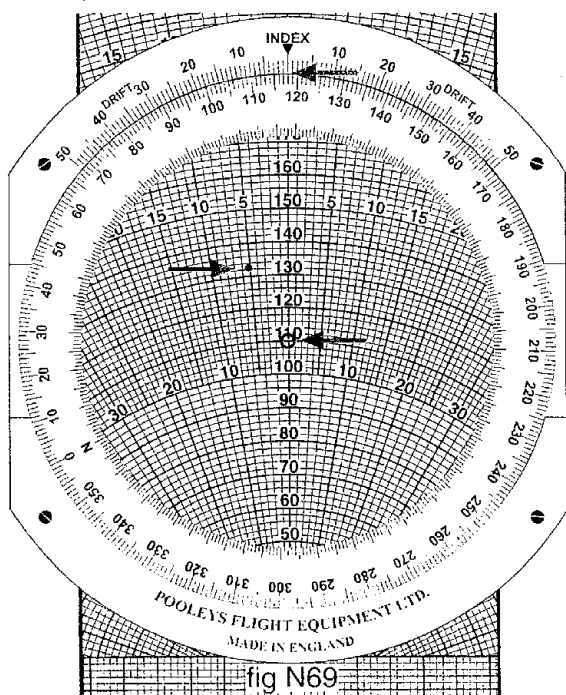

fig N69
**Note:** The soft pencil mark has now moved 5° to the left (fig N69).